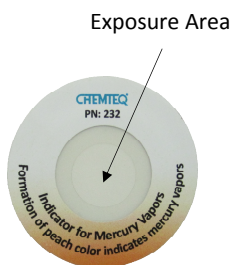

Figure 1
- Remove indicator sticker from the packaging pouch (Figure 1).